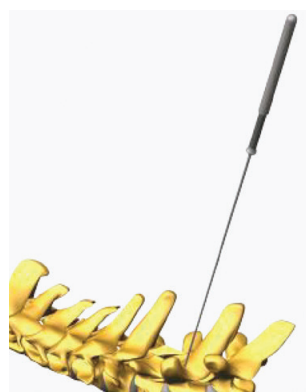
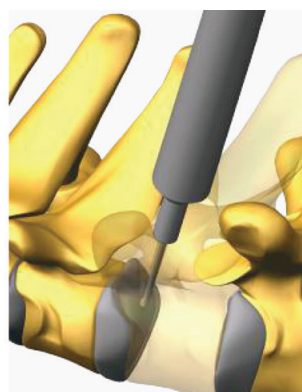

Figure 14
Figure 15
- Use a striped ball-tipped probe (Figure 14) to check cortex integrity in all directions. Either use the probe or the depth gage (Figure 15) to verify hole depth. The depth markings for the striped ball-tipped probe start at 10mm, extending every 5mm up to 45mm, with the wide band at 20 - 25mm.